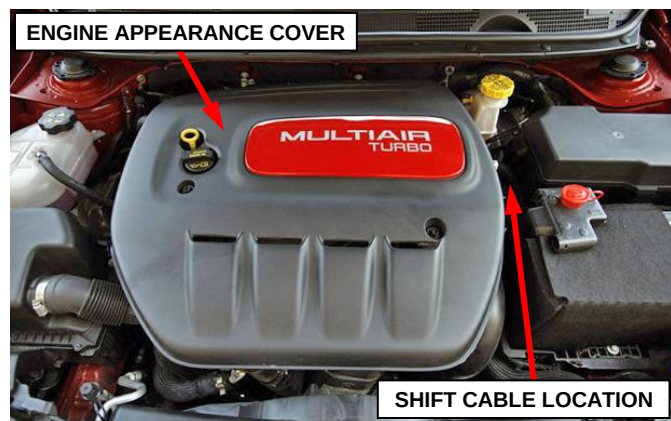

Figure 10 – Engine Appearance Cover
2. Open the hood and support it on the prop-rod (Figure 10).
3. Remove the engine appearance cover if equipped (Figure 10).
17. Install the engine appearance cover if equipped (Figure 10).